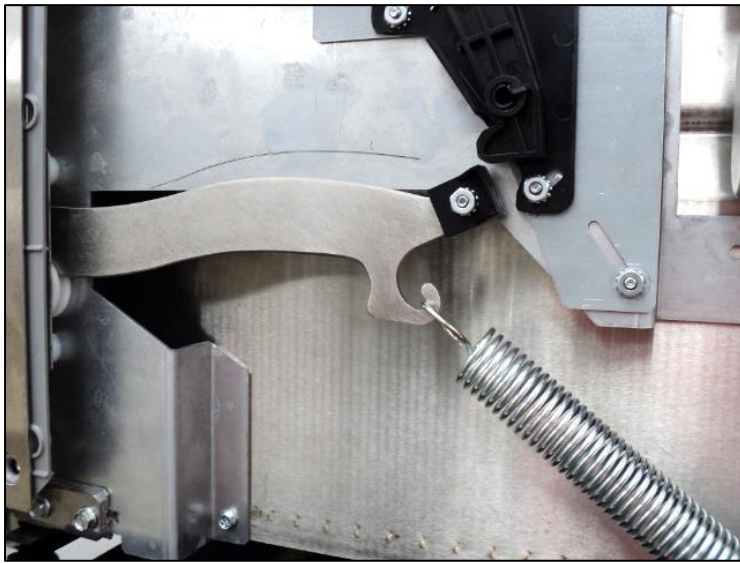

Figure 3
7. Place a small drop of the provided **Blue Threadlock** to the threads of the new Shoulder Bolts and reattach Door Arms, Hole Plugs, and Door Springs. Door Arms will be out of adjustment from the marks made in Step 2. See Figure 3.